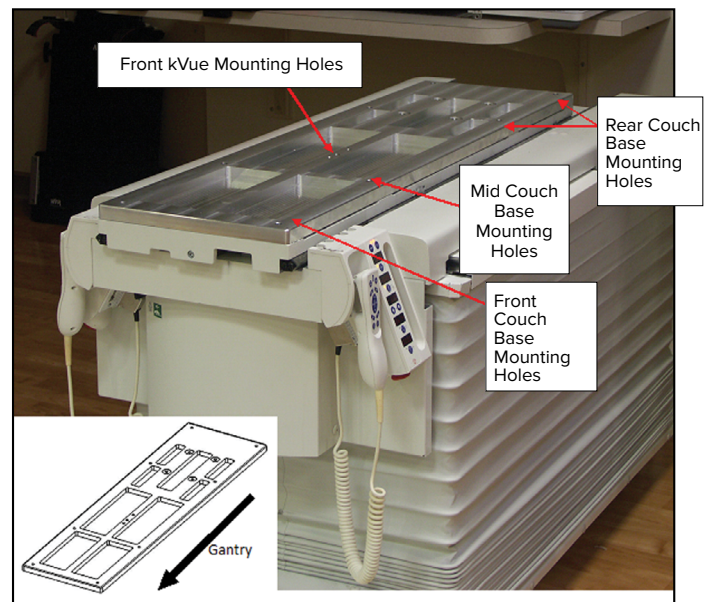

Fig. 19
2. Place the Interface Plate onto the couch base, with the 3 front kVue mounting holes at the gantry end of the couch base (Fig. 19).